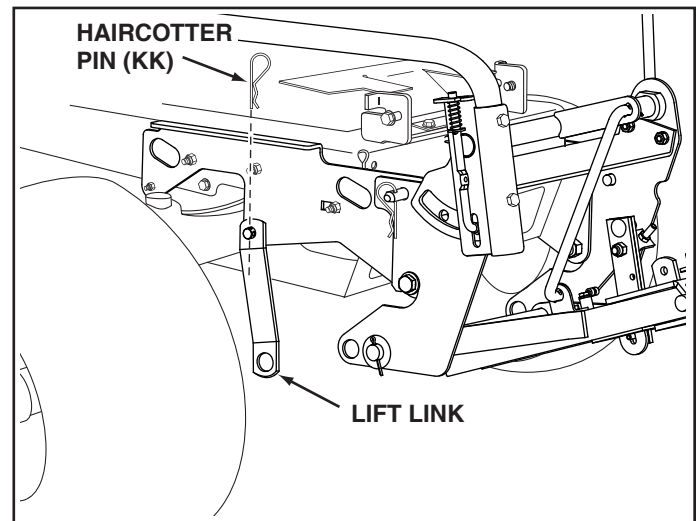

FIGURE 30
STEP 3: (SEE FIGURE 30)
- Attach the small holes of the lift links to the welded pins on the frame bracket and secure with haircotter pins (KK). The lift link should angle to the inside.